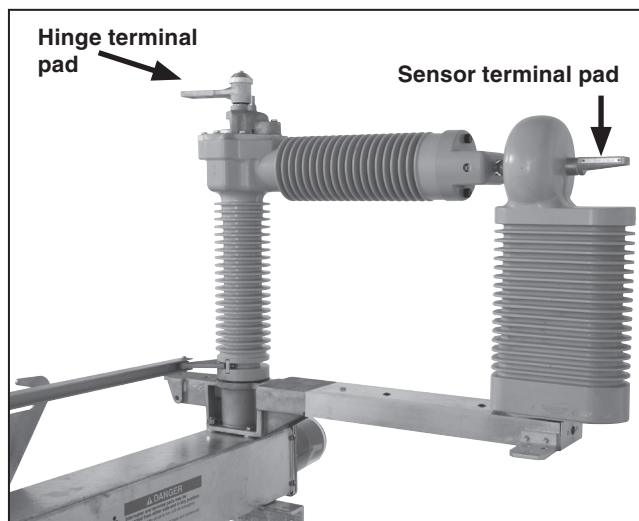

Figure 19. Preparing terminal pad surfaces (vertical mounting configuration shown).
- (b) Wire-brush each Scada-Mate Switch sensor terminal pad and apply a coating of NO-OX-id“E” before securing the connectors to the terminal pads. See Figure 19.
- (c) *Do not wire-brush Scada-Mate Switch hinge terminal pads.* Apply a coating of NO-OX-id“E” to these pads before securing the connectors to the terminal pads. See Figure 19.